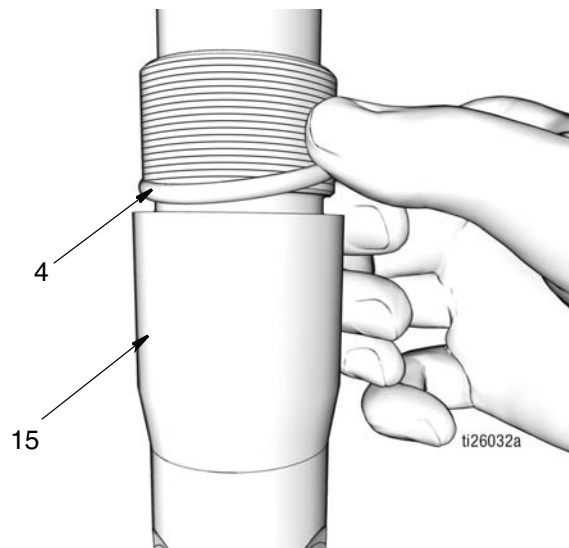

FIG. 46
- b. Apply a thin layer of grease to o-ring (4). Install o-ring around the outlet check valve (15) (FIG. 46).